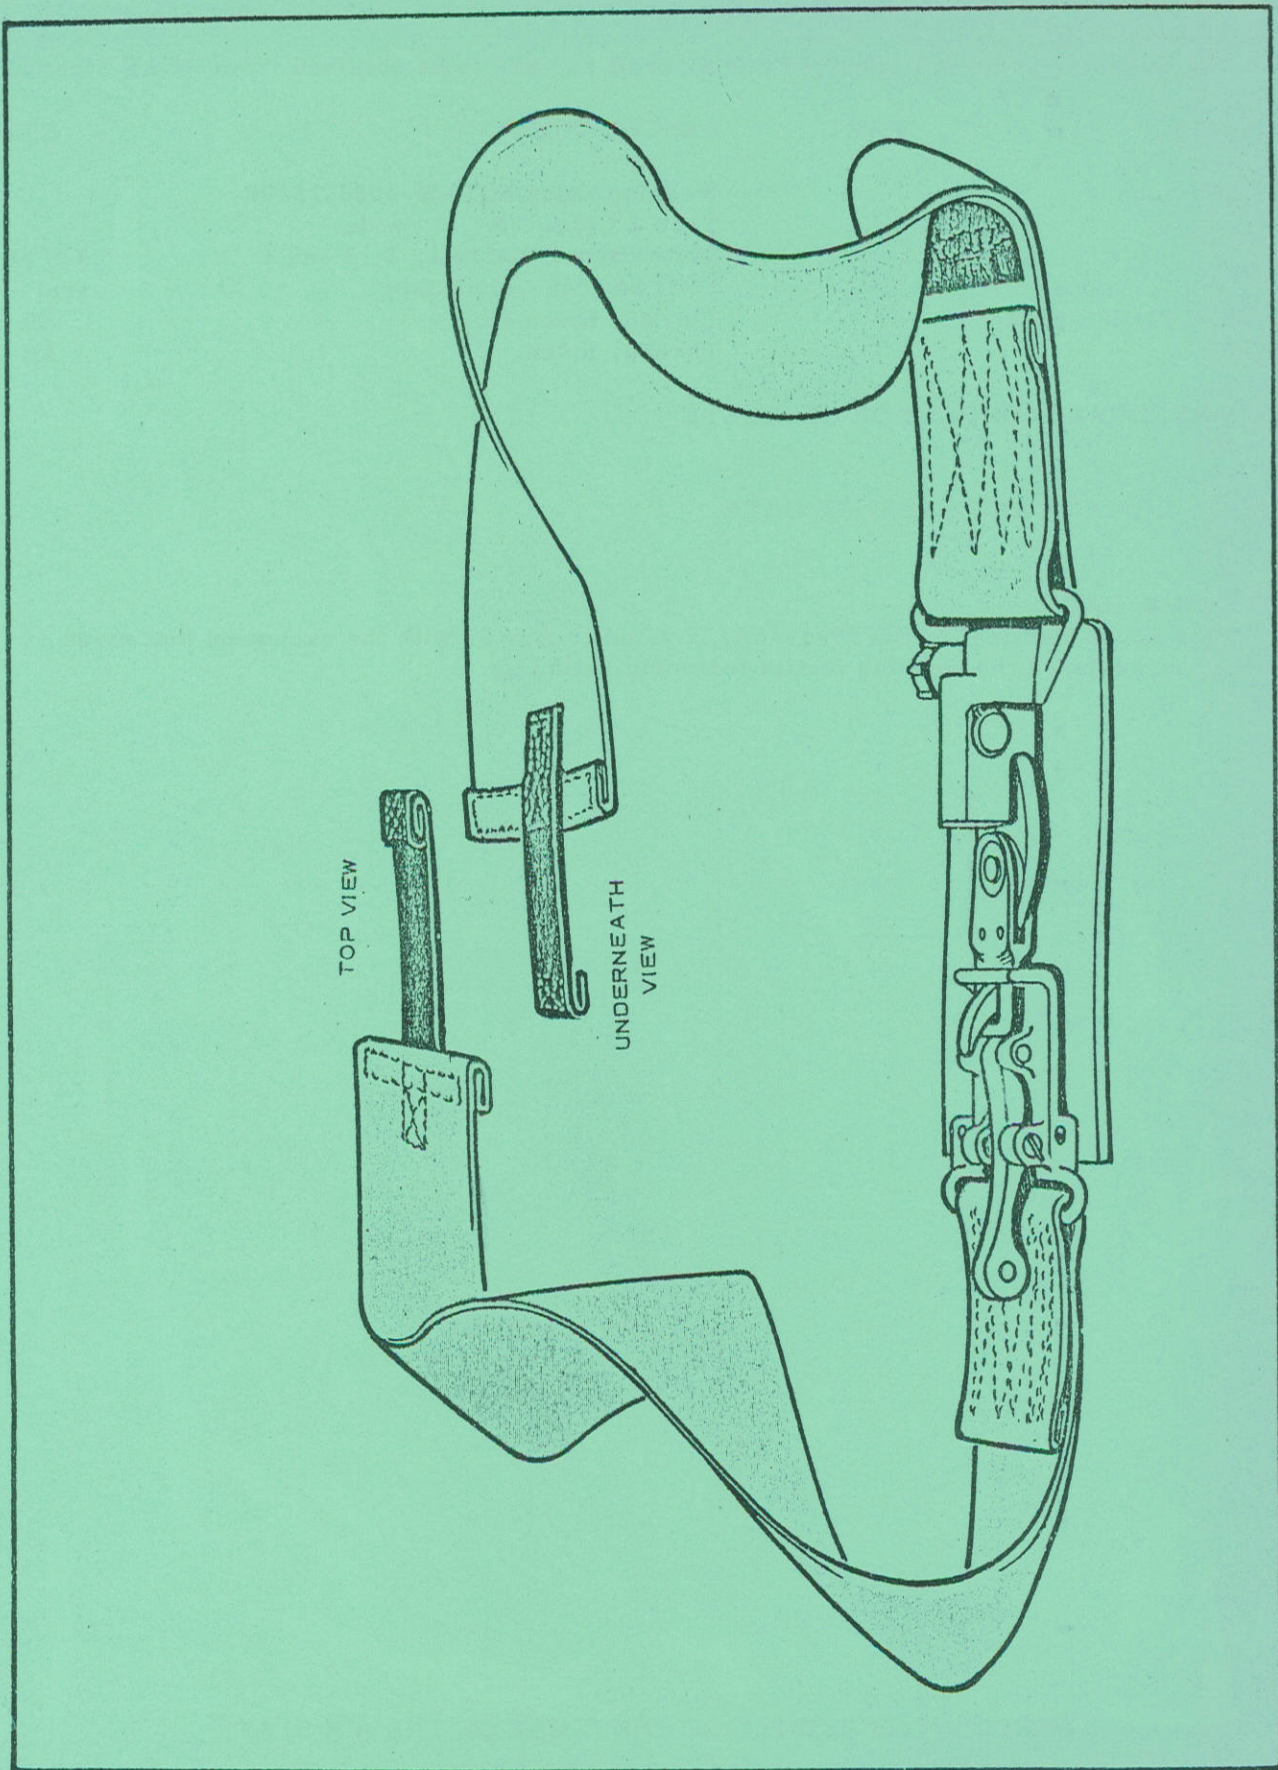

Figure 2 MA6 Lap-Belt Fitted with Extension Tabs
(4) Sew tabs along both sides so that both parts of the tab webbing will be attached to each other, see Figure 2.